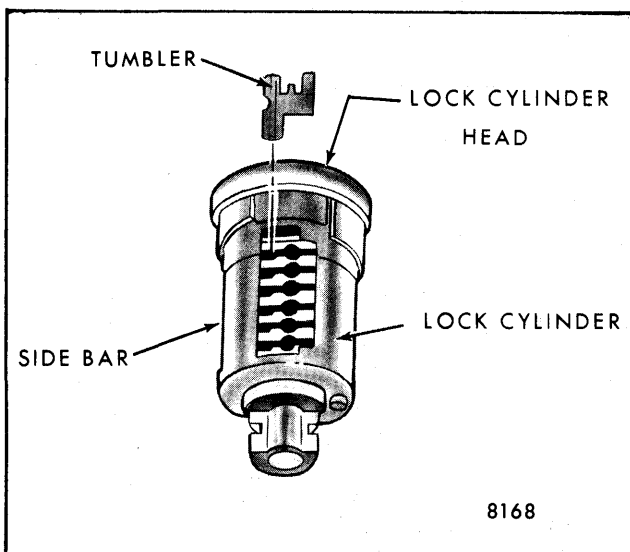

Fig. 1-3-Installing Tumblers
2. Starting at open end (head) of cylinder, insert tumblers in their proper slots in the order called for by the code, as shown in Figure 1-3.
3. Pull out side bar with fingers so that tumblers will drop completely into place (Fig. 1-3). Insert one tumbler spring in space provided above each tumbler.